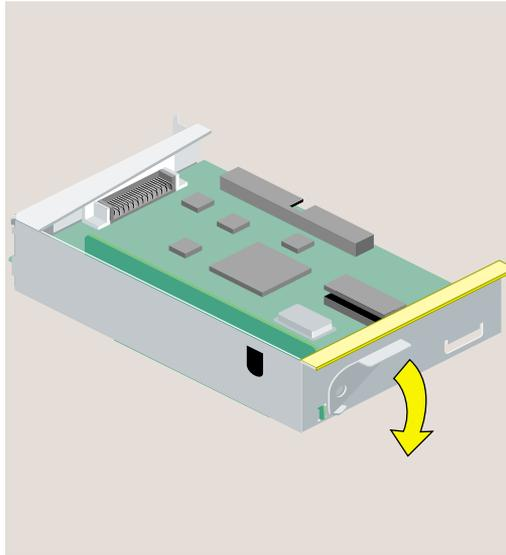

Figure 2-17 Returning the Lever to its Starting Position
7. Push the lever to return it to its starting position (Figure 2-17).